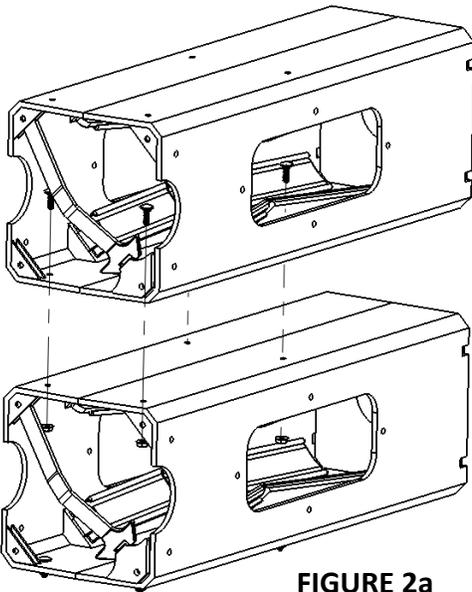

FIGURE 2a
When attaching an additional Cylinder Mate to the top of another (See **Figure 2a**), use the same (4) mounting locations as the one below.